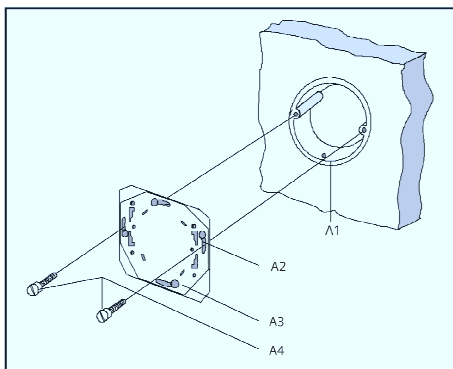

Figure 5:
**Mechanical data** (Figure 5)
General description (see Figure 5)